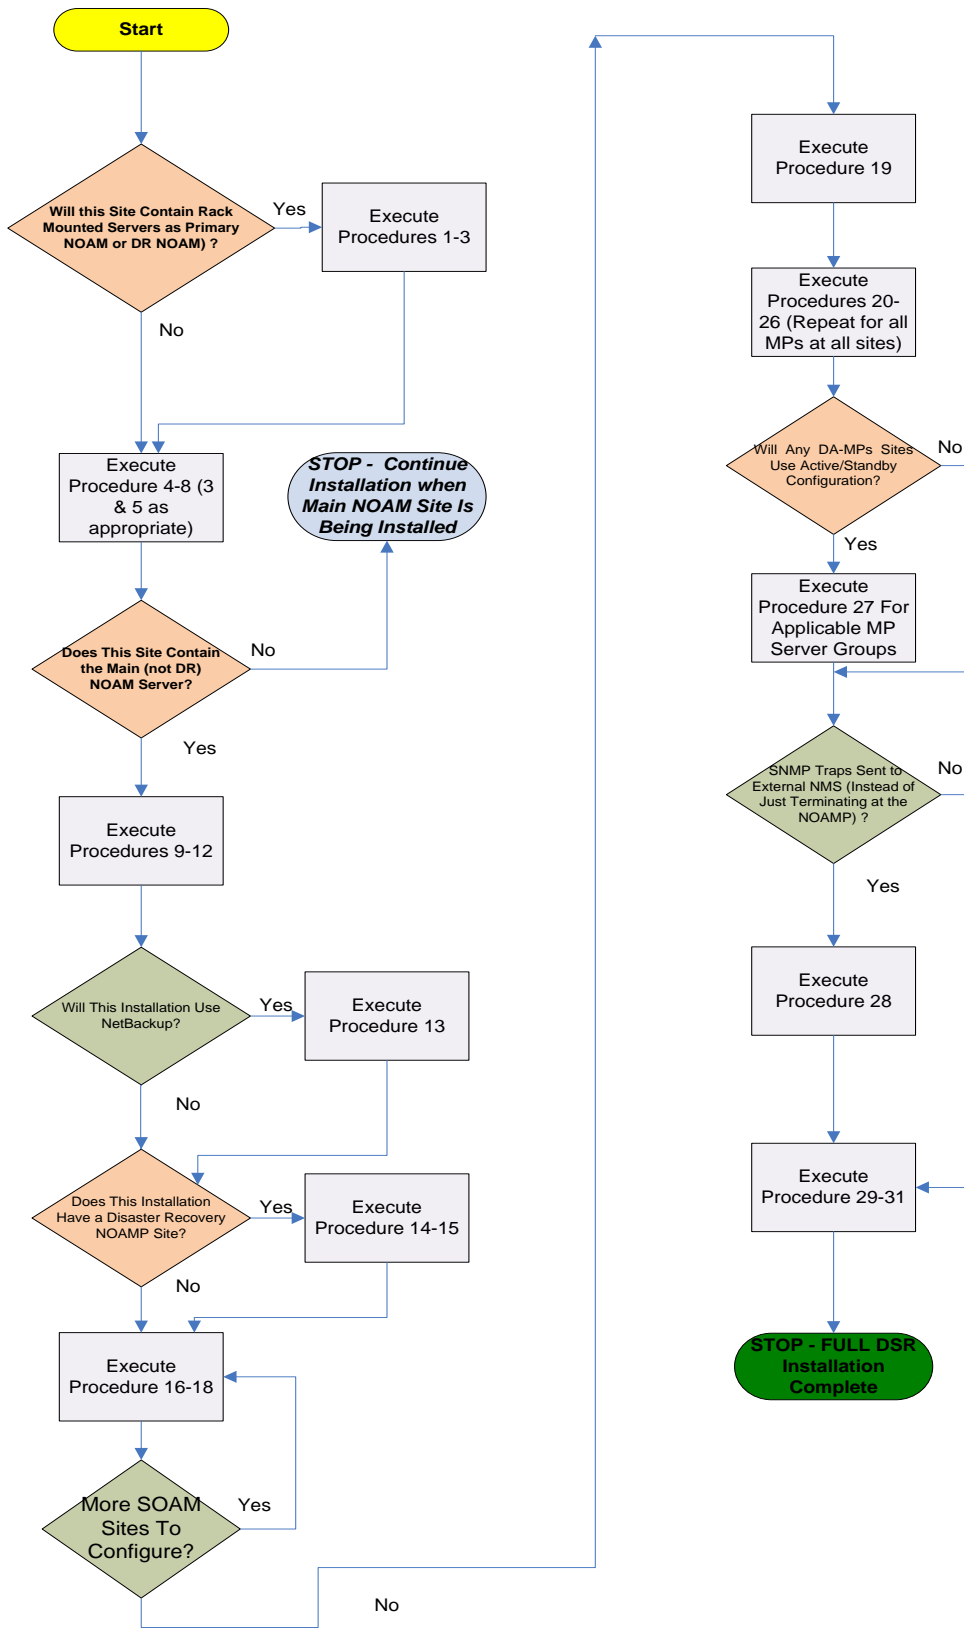

Figure 4: DSR Single Site Installation Procedure Map
3. For each SOAM/MP/DR-NOAM only site (i.e. sites **NOT containing the main NOAMP server**), the installer will execute the procedures in document 909-2282-001 to set up the PMAC, HP enclosures, and switches. Then, using the procedures in *this document*, all servers will be IPM-ed with the proper TPD and DSR application ISO image. (Figure 4 details the exact procedures that are to be executed for the 2nd part of this install) When this is complete, all non-NOAMP sites will be reachable through the network and ready for further installation when the primary NOAMP site is brought up.
4. The installer will then move to the "main" site that will contain the primary NOAMP. Again, 909-2282-001 will be executed for this site. Then, moving on to the procedures in *this document*, Figure 4 is consulted to determine the procedure list. During this install, he will "bring up" the other sub-sites (if they exist) that were configured in step 3. For single sites where the NOAMP/SOAM/MPs are all located together, then step 3 is skipped and the entire install is covered by this step.